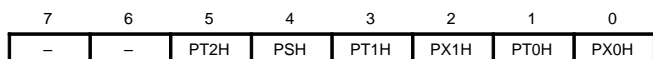

**Figure 9. UART Multiprocessor Communication, Automatic Address Recognition**
Automatic Address Recognition is a feature which allows the UART to recognize certain addresses in the serial bit stream by using hardware to make the comparisons. This feature saves a great deal of software overhead by eliminating the need for the software to examine every serial address which passes by the serial port. This feature is enabled by setting the SM2 bit in SCON. In the 9 bit UART modes, mode 2 and mode 3, the Receive Interrupt flag (RI) will be automatically set when the received byte contains either the "Given" address or the "Broadcast" address. The 9 bit mode requires that the 9th information bit is a 1 to indicate that the received information is an address and not data. Automatic address recognition is shown in Figure 9.